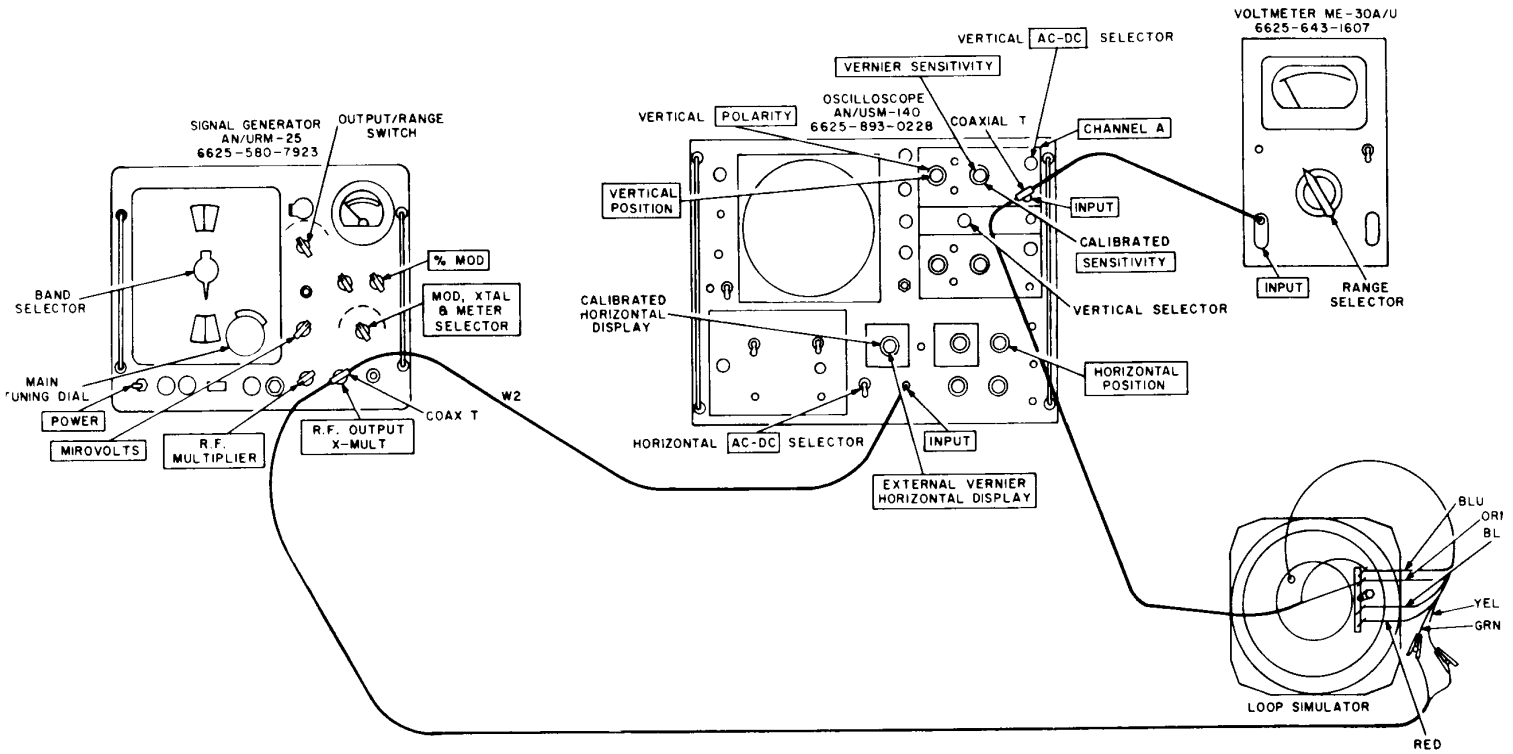

Figure 8. Test equipment connections for LOOP SIMULATOR Zero Calibration.
(2) Connect the equipment, as shown in figure 8, with the hot lead from signal generator AN/URM-25 connected to the green lead of resolver B1 and the negative lead to the yellow wire on B1. Connect the hot lead from the oscilloscope to the blue wire on resolver B1 and the negative lead to the orange wire.
(3) Set the POWER switch of signal generator to ON, and allow 15 minutes for equipment to warm up and stabilize.
(4) Adjust the output of signal generator to 100 kc at 0.1 volt, unmodulated.
(5) Set the LOOP SIMULATOR needle to E.
(6) Rotate the LOOP SIMULATOR toward N while observing voltmeter indication.
(7) Voltmeter will indicate a null when the LOOP SIMULATOR is set to N.
(8) Rotate the LOOP SIMULATOR 5 degrees clockwise from N. Center the pattern on oscilloscope.
(9) A 1-to-1 Lissajous pattern will appear on oscilloscope with the top of the pattern tilted into the upper right-hand quadrant.
(10) If the LOOP SIMULATOR performs properly, disconnect the equipment and replace the LOOP SIMULATOR. If it does not meet specifications, leave the equipment connected and proceed with the adjustment procedures.